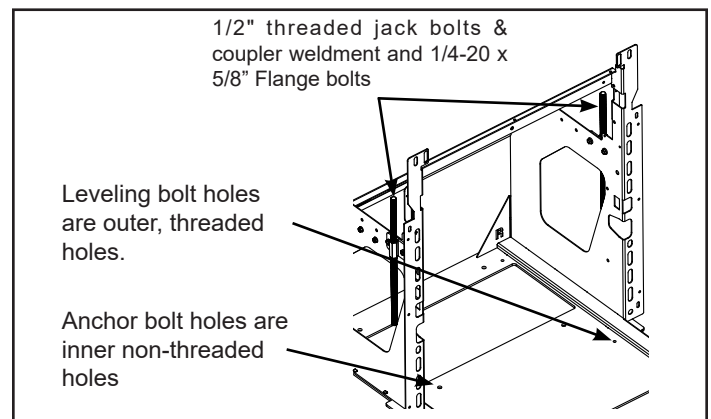

Figure 5.12
With the surround attached, install the coupler nut weldments to the frame in the hole location that suits your needs with the (4) 1/4-20 x 5/8 flange screws and nuts and 1/2" jack bolts. Install the (4) 5/16"-18 leveling bolts into the threaded holes in the bottom pan of the mounting frame, install the mounting frame into the opening and adjust these bolts to insure the frame is level. (**Note:** Use of all 4 leveling bolts may not be necessary.) Tighten the 1/2" jack bolts against the lintel. See Figure 5.12.